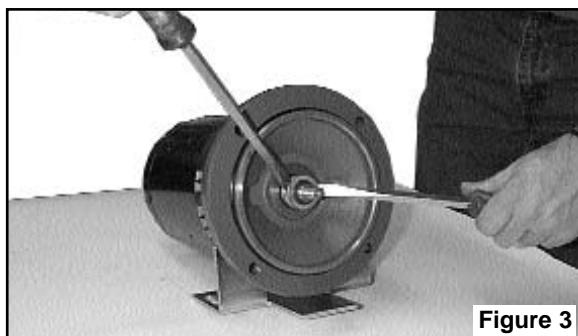

Figure 3
9. Pry off rotating member of mechanical seal from motor or stub shaft by using two (2) screwdrivers. (Figure 3)